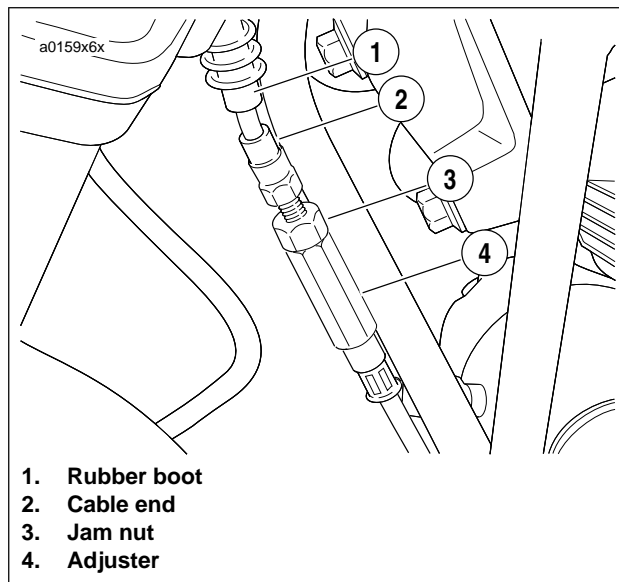

Figure 1-12. Clutch Cable Adjuster Mechanism
3. See Figure 1-12. Slide rubber boot (1) upward to expose adjuster mechanism. Loosen jam nut (3) from adjuster (4). Turn adjuster to shorten cable housing until there is a large amount of freeplay at clutch hand lever.
- b. See Figure 1-12. Set freeplay by turning adjuster.